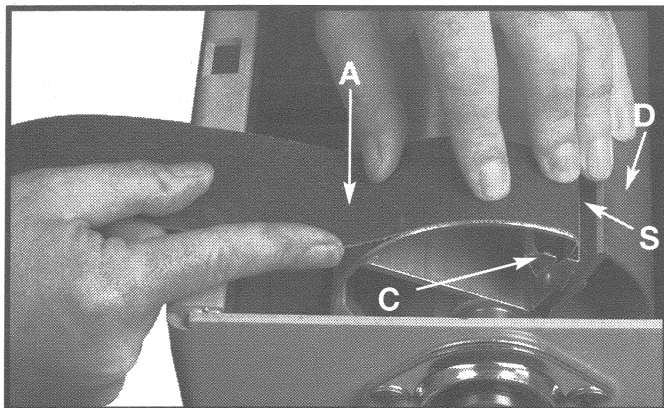

Fig. 30
5. To replace the sanding belt, press spring clip (C) Fig. 30 together and insert one end of sanding belt (A) through the slot (S) in the drum and into the spring clip (C). The taper cut end of the sanding belt must line up with the edge of the drum.